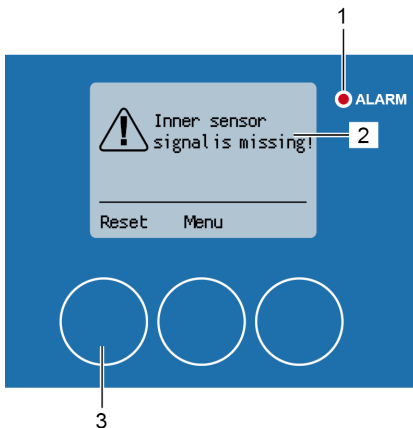

Fig. 194: Inner sensor signal alarm
The alarm message “Inner sensor signal is missing!” (Fig. 194/2) is displayed during the cleaning process if there is a problem with the proximity sensor in the centre of the rotor. For example, if the proximity sensor in the centre of the rotor emits a new signal (e.g. due to contamination) after it has already given a signal by recognizing the cleaning carriage. The red alarm LED (Fig. 194/1) lights up.
2. Reset the alarm message with [Reset] (Fig. 194/3).
If the alarm message is reset without first correcting the error, the alarm message appears again. The “1 Main menu” menu can be called up via [Menu] (Fig. 194/4), e.g. to check the signal status of the proximity sensor in the centre of the rotor chapter 6.5 Status indicators on page 89.